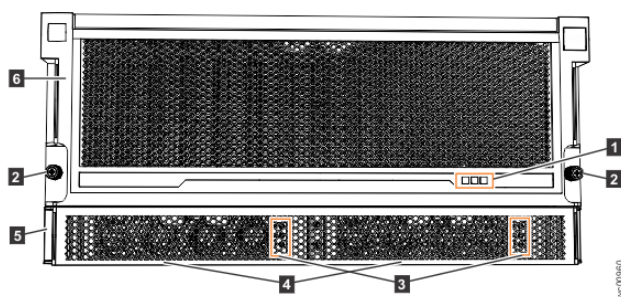
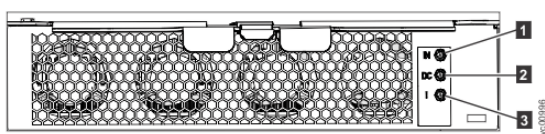

Figure 165. LEDs on the front of the expansion enclosure
Figure 166. LEDs on the front of a power supply unit
As Figure 165 on page 201 shows, the front of the 5U expansion enclosure contains LEDs for the display panel (1) and for each of the power supply units (3).
The 5U expansion enclosure contains two PSUs (4 in Figure 165 on page 201) that are accessible from the front of the enclosure. Each PSU has its own a set of LEDs, as shown in Figure 166 on page 202.